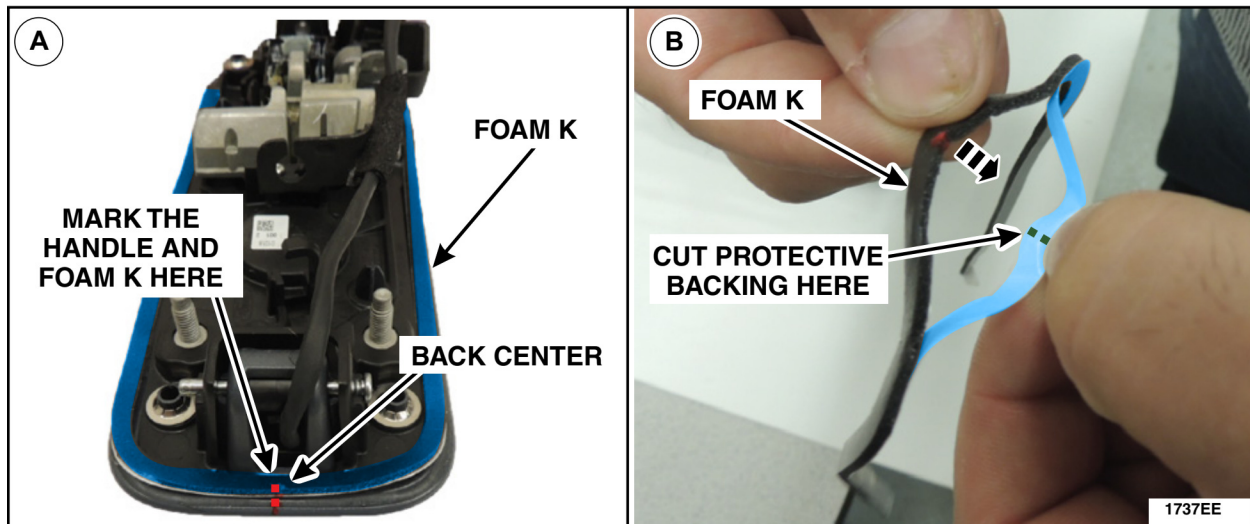

FIGURE 52
- A. Lay out foam K on the exterior door handle and mark center as shown in Figure 52.
- B. Remove foam K from the door handle and remove the back center portion of the adhesive backing then cut the protective backing in half. See Figure 52.